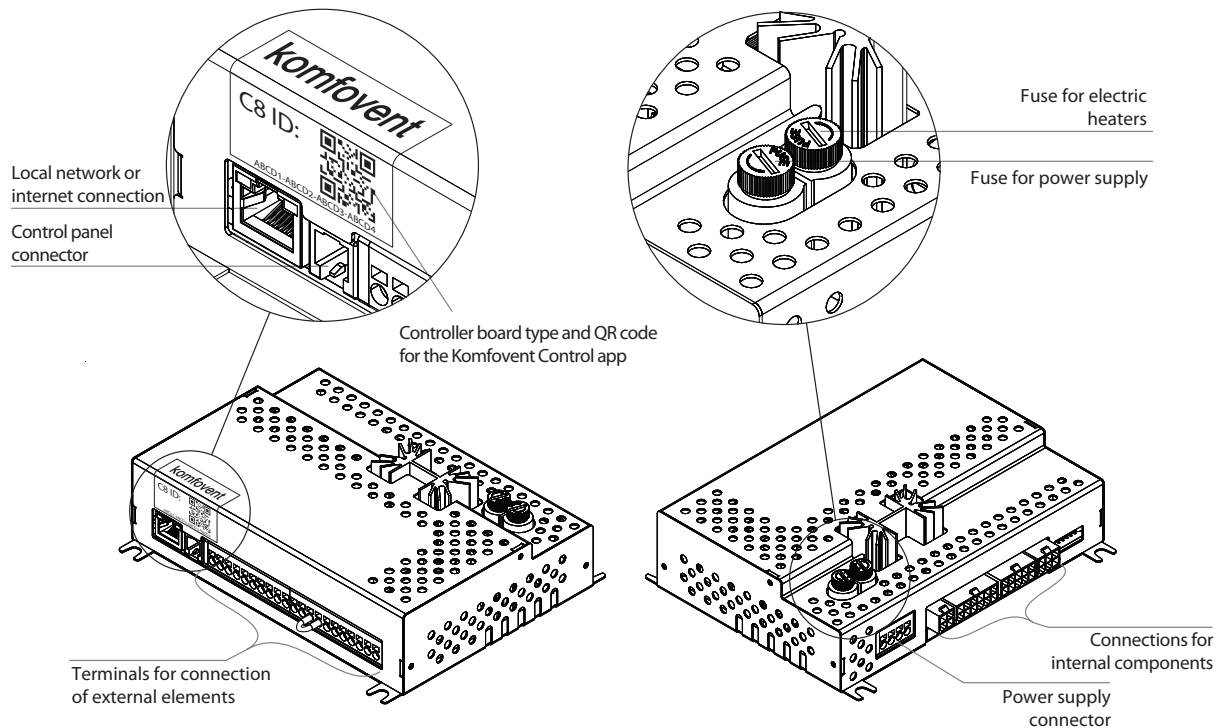

Fig. 10. C8 controller main board
- The terminal numbering shown here only applies for C8 controller board. Before connecting the external elements, check the board type on the sticker in the front of the controller (see Fig. 10).
It is advisable to run the control panel cable in such a way that it does not go near the power supply wires or high voltage electrical equipment (electrical inlet cabinets, electric water heating boiler, air conditioning unit, etc.). The cable can be passed through the holes in the back or bottom of the control panel (follow the installation instructions supplied with the control panel). The wire to C8 controller board is connected to a dedicated slot (RJ9 connector; see Fig. 10) or to the terminals for external connections.
The unit can be controlled not only by the control panel, but also by computer or smart phone. In such cases, the air handling unit must be connected to an local computer network or to the Internet. The unit is controlled by a computer using a web browser, or a smartphone with a Komfovent Home or Komfovent Control app. The air handling unit is connected to the computer network with a CAT5 type cable (RJ45 connector; see Fig. 10). The total cable length between the unit and the network router must not exceed 100 m.
- The easiest way to manage your unit over the internet is to use a smartphone with the Komfovent Control app. Launch the app on your phone (the phone must have Internet access). When you connect for the first time, the app will ask you to scan the QR code at the front of the controller board (see Fig. 10). When you scan the code, the app will automatically establish the connection to the unit (for more information on the Komfovent Control app, see "Domekt User Guide").